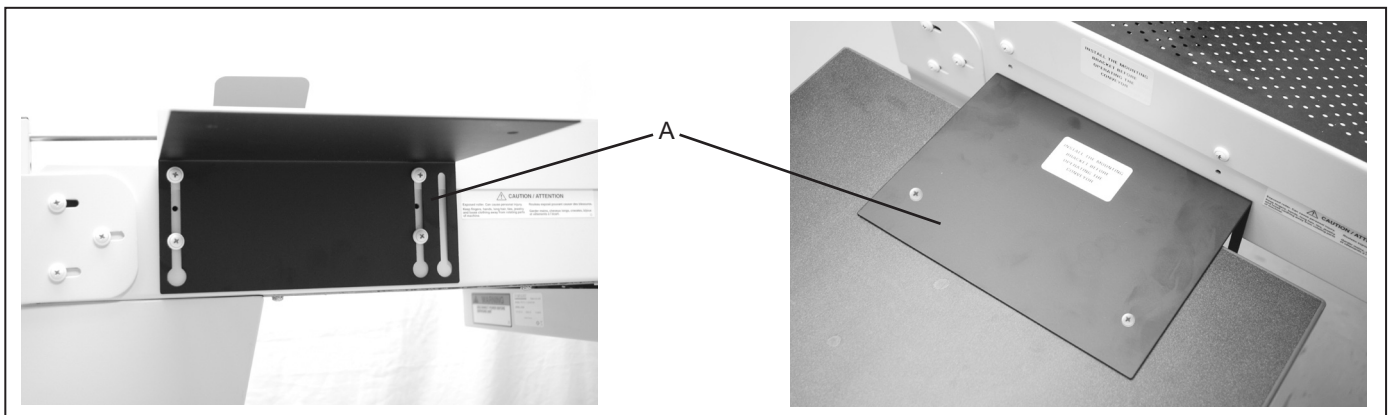

Fig 13
11. Attach the mounting bracket (Fig 13 item A) to the conveyor. This bracket is used to secure the conveyor to the table that the delivery device (i.e. printer) sits on. See mounting details supplied with the bracket. Do not attach bracket to table until correct conveyor height has been determined (see page 9).